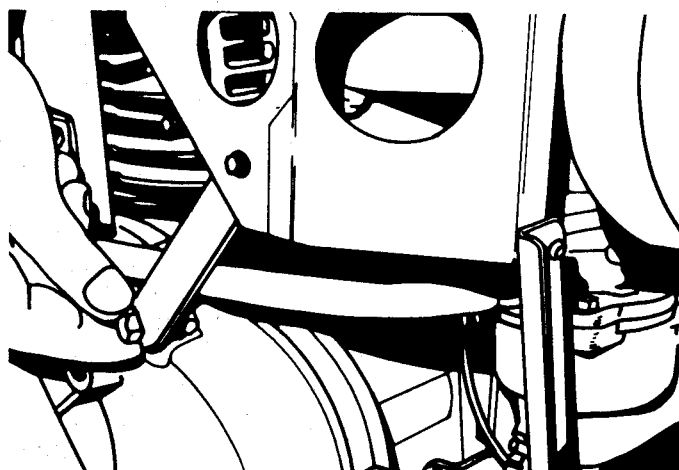

FIGURE 62
2. Remove nut and washer securing brace to engine. See Figure 62.